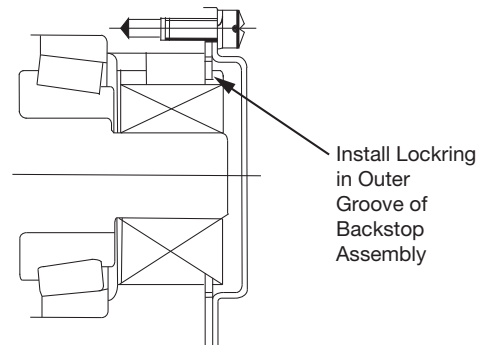

Figure 1 - TXT3B
1. TXT1 thru TXT6—When replacing failed backstop, inspect shaft end for condition. Journal should be smooth and free of damage. See Figure 1.